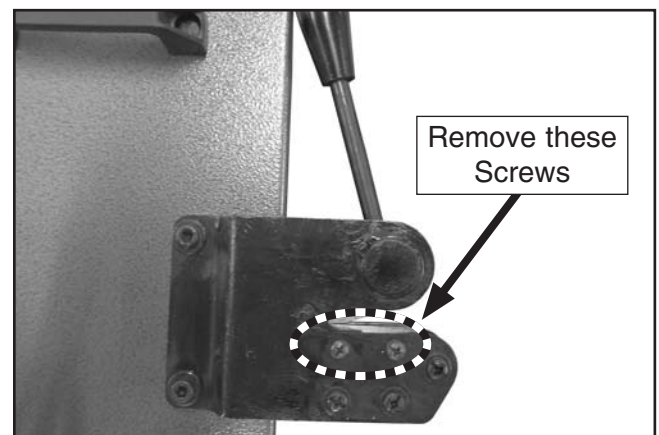

Figure 6. Phillips head screws to be removed.
1. Remove the two Phillips head screws shown in **Figure 6**, and the attached hex nuts, and flat washers.